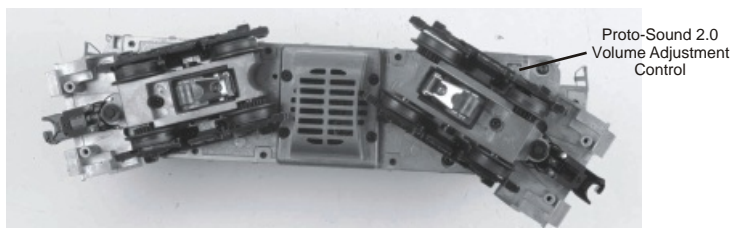

Figure 2: Volume Adjustment
**Volume Control** – To adjust the volume of all sounds made by this engine, turn the master volume control knob located under the engine clockwise to increase the volume and counter-clockwise to decrease the volume (see Fig. 2).